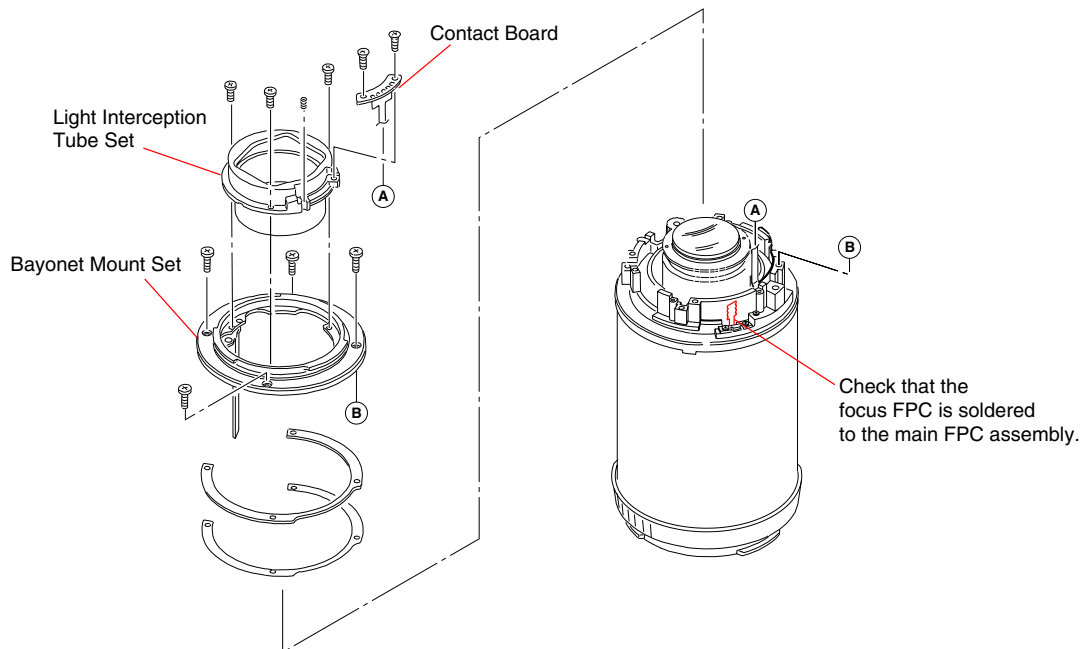

Fig. 4-8-5
- 1) Set the checking lens into the state of Fig.4-8-5 (zoom barrel was removed).